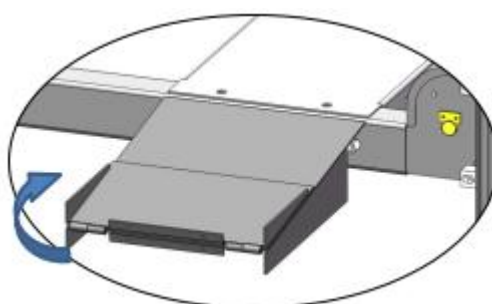

Fig.36
P. Install Rear wheel stop plates (See Fig. 36)